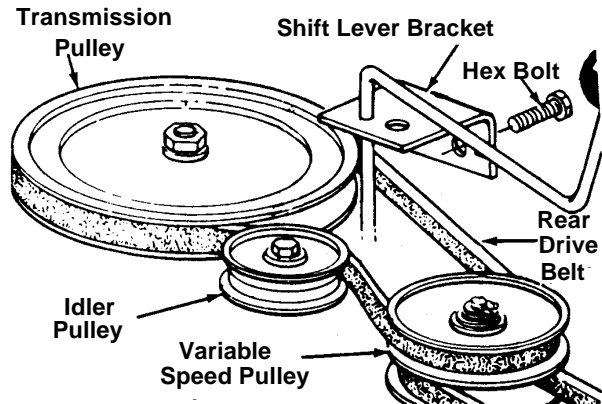

Figure 25
- Push the idler pulley toward the right side of the unit. Lift the belt over the idler pulley. See Figure 25.
Swing the bracket toward the right so the belt can be removed from the transmission pulley. See Figure 25.